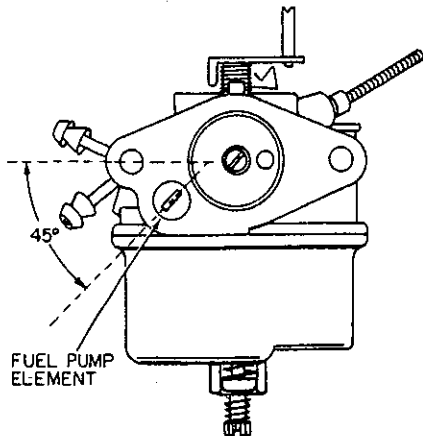
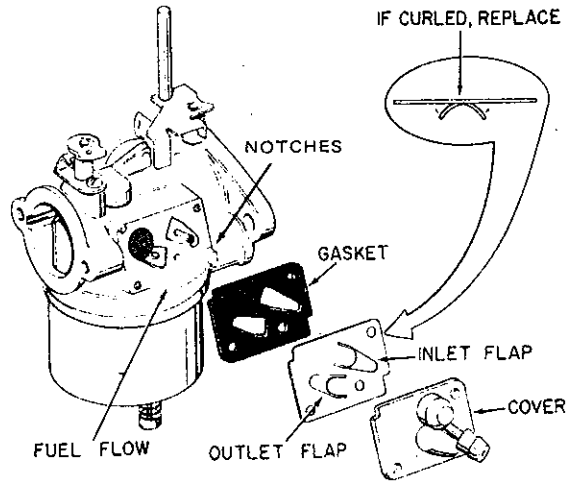

Figure 29
Figure 30
A. The fuel pump built into carburetor of some models uses a bladder type pumping element and two flap valves to control the direction of fuel flow. The pump element should be inserted into the opening in the mounting flange end of the carburetor body, with the slot opening at a 45° angle (Figure 29). A gasket fits between mounting flange of carburetor and cylinder. The hole of gasket must be directly over the pump element to allow the crankcase pulsations to operate the pump element.
The flap valve goes between the cover and gasket. (See Figure 30.) Notches on the carburetor body insure that the gasket, valve and cover can only be fit to the body correctly. Cover retaining screws should be tightened to 6-8 in.-lbs. (0.68-0.90 Nm) torque.
- (1) Remove carburetor to check for pulsation passage alignment. (See Figure 29.)
- (2) Check condition of pump element.
- (3) Check for air leaks at gasket surface.
- (4) If flaps are curled (Figure 30), install new flap valve and gasket.